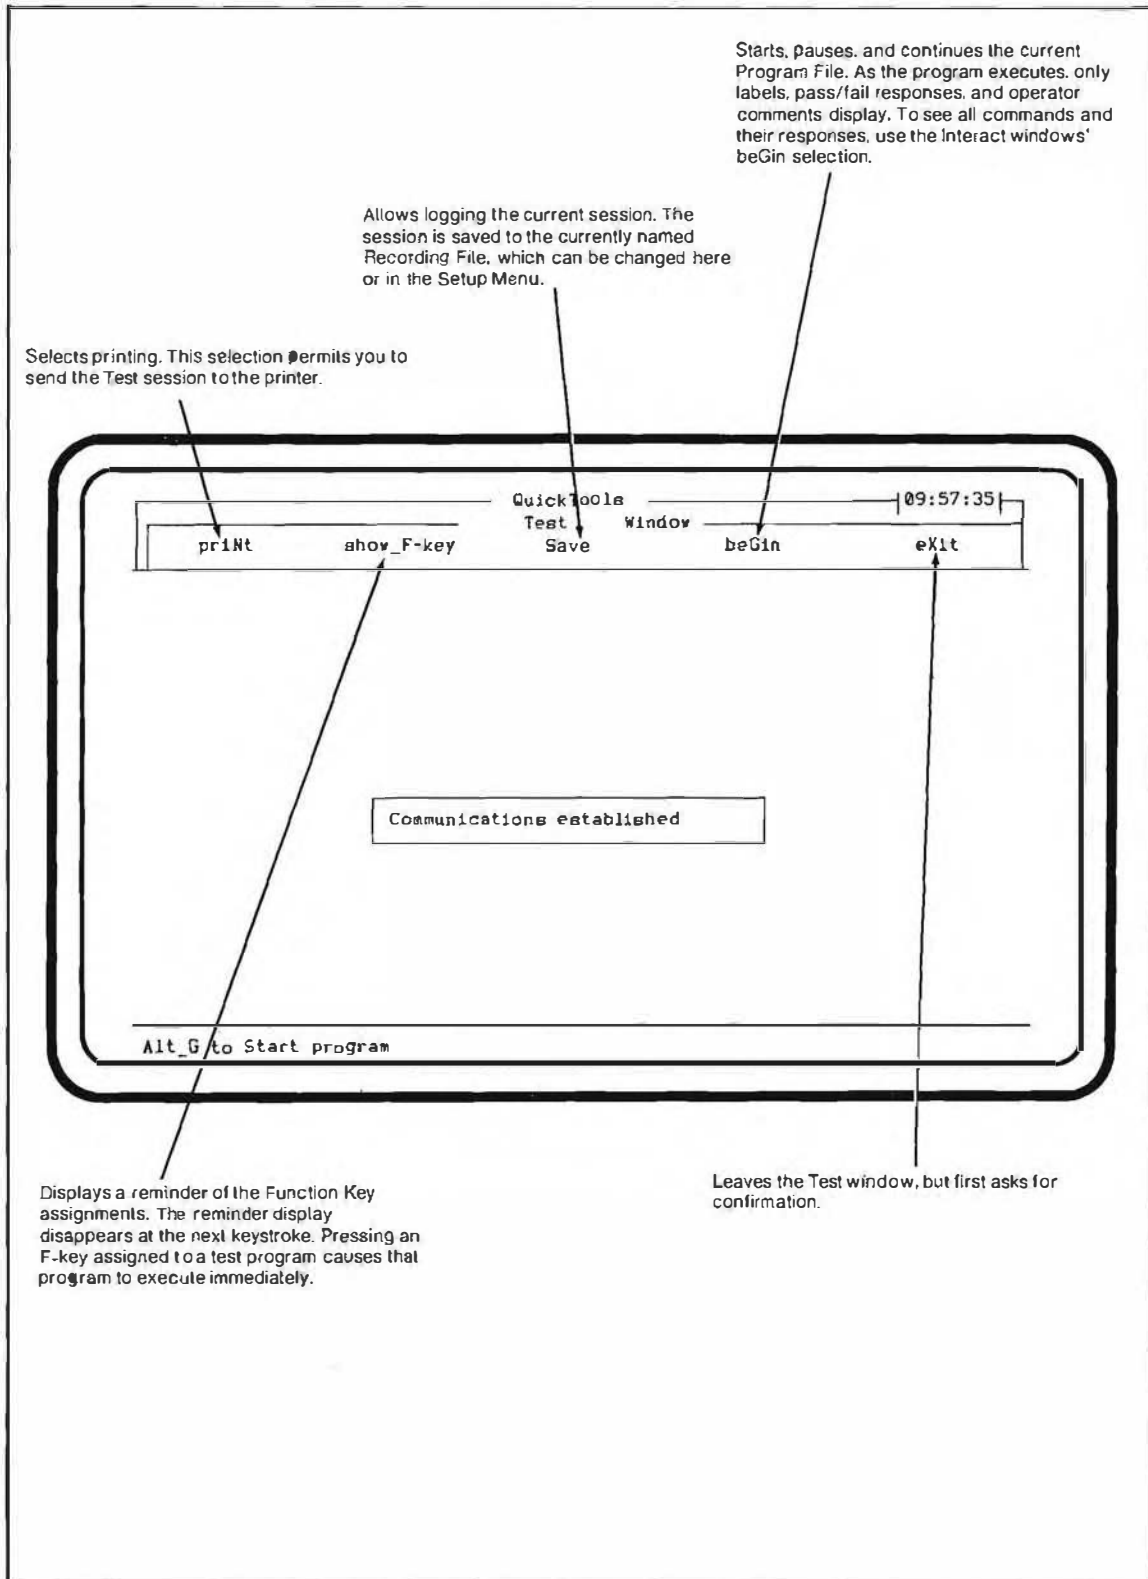

Figure 9. Running the Test Routine
5. Go to the Test screen (`<Alt>t` and `←`) and observe the display. The choices on the screen are described in Figure 9.